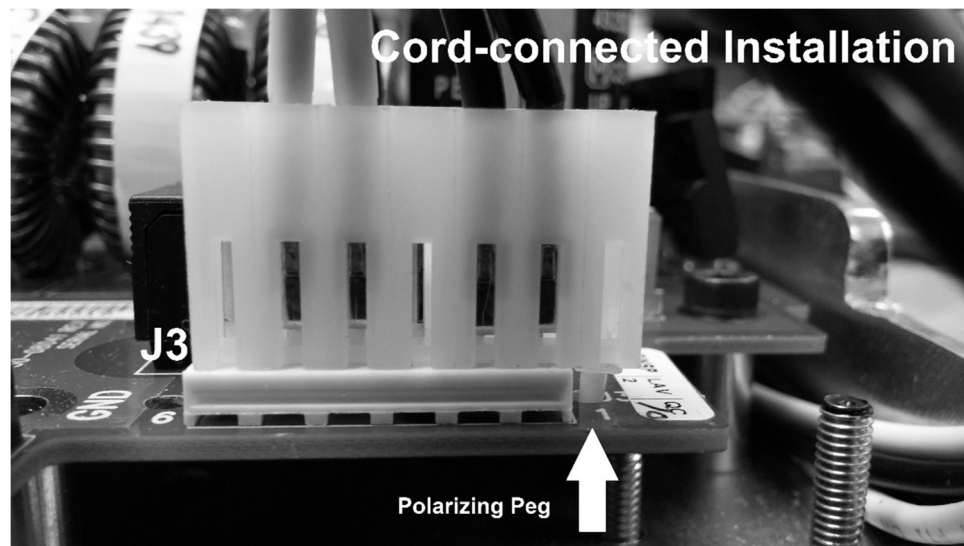

Figure 29
9. Attach the bracket and strain relief as shown in *Figure 29*.